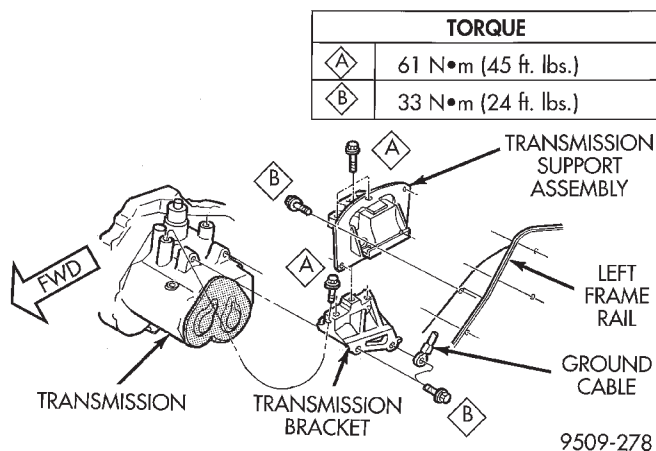

Fig. 15 Engine Mounting—Left
(1) Support the transmission with a transmission jack.
(2) Remove the three vertical bolts, from the mount to the transmission.
(3) Remove the transmission mount fasteners and remove mount.
(4) Reverse removal procedure for installation. Refer to (Fig. 15) for bolt tightening specifications.
(5) Engine support assemblies adjustment, Refer to Engine Support Assembly Adjustment of this section.